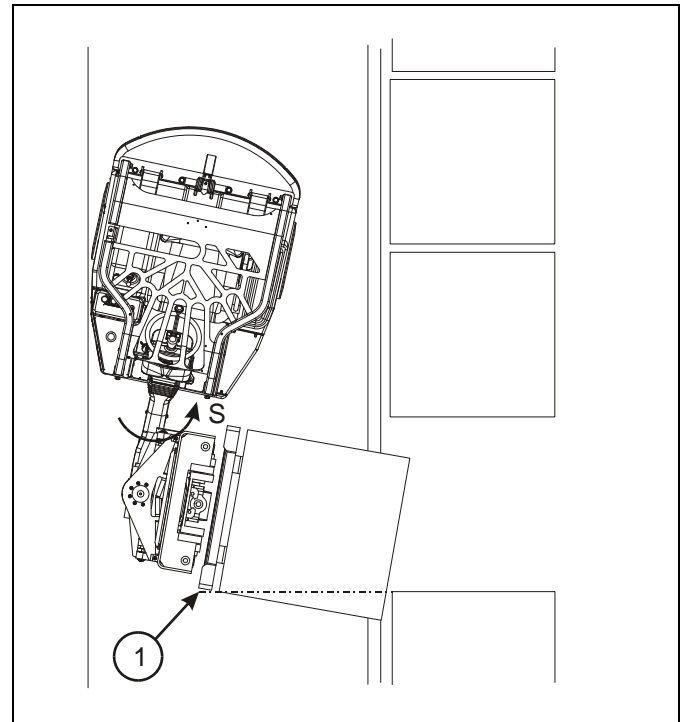

Figure 4-20: Load Drop-Off
6. Stop the forklift and turn the load 90° (turn the steering wheel counterclockwise) so it points in the direction you will drop it off. See Figure 4-20.